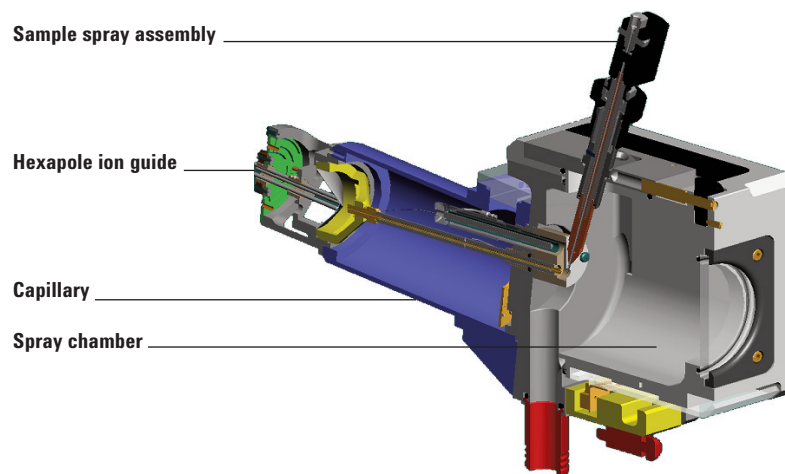

Figure 1. The Agilent API Interface.
Routine analysis of large numbers of samples in a dirty matrix presents a severe challenge for an LC interface. The ionization chamber and atmospheric pressure ionization (API) interface shown in Figure 1 is designed to meet just such a challenge. Ions formed at atmospheric pressure in the electrospray (ES) assembly are directed from atmospheric pressure into the low pressure region of the MS vacuum system via the interface capillary and are subsequently transported by the hexapole ion guide into the mass analyzer.